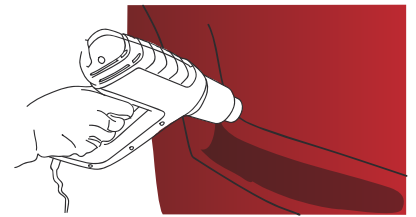

Figure 11
- › Once this step is completed, heat all the hollow parts which have undergone severe deformation between 80 °C and 90 °C (176 °F and 194 °F) to kill the shape memory of the film. (FIG. 11)